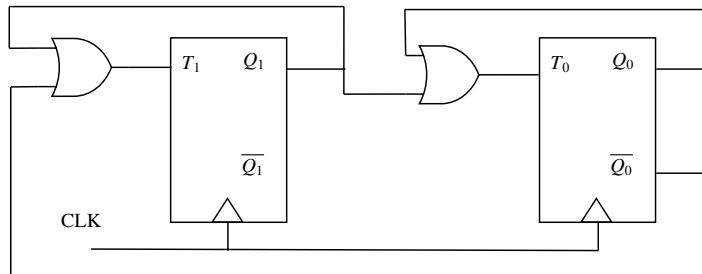

Fig. 5.25
27. The sequence of states  $(Q_1 Q_0)$  of the given synchronous sequential circuit in Fig. 5.25 is \_\_\_\_\_.